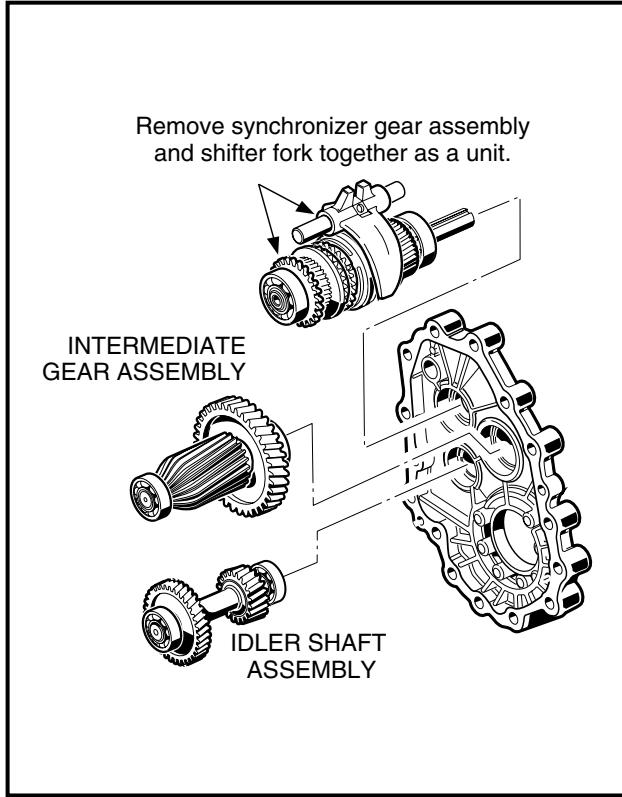

Figure 19-9 Remove Intermediate Gear
11. Continue to rock and loosen the remaining gear assemblies until the intermediate gear assembly can be removed from the case. Then remove the idler shaft assembly (**Figure 19-9, Page 19-8**).
12. Remove the synchronizer gear assembly and shifter fork assembly as a unit from the case (**Figure 19-9, Page 19-8**).